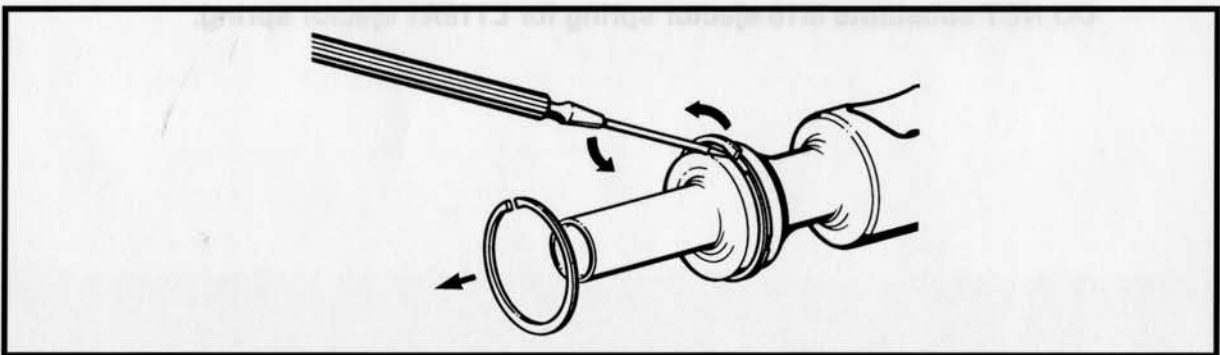

Figure 3-2-34 Removing the Bolt Rings
- c. The bolt rings are not removed except for replacement. Replace all three rings if damage or defects exist. In the event that replacement is required, the rings are removed with the tip of the jeweller's screwdriver. See Figure 3-2-34.